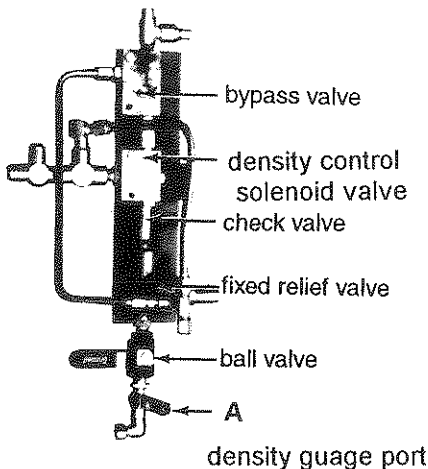

Fig. 51
2. Remove the 1/4 inch JIC cap on gauge port (A), see Fig 51
3. Connect a 5,000 p.s.i. hand-held gauge onto the density gauge port (A).